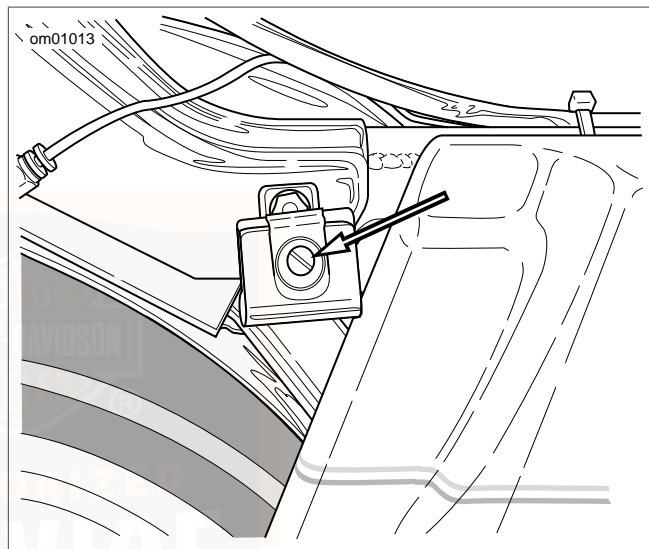

Figure 81. Front Saddle Bracket
2. See Figure 81. Remove bracket bolt with the flat washer that secures seat strap and bracket. Then remove passenger seat strap and saddlebag front mounting bracket from chrome frame tube cover.